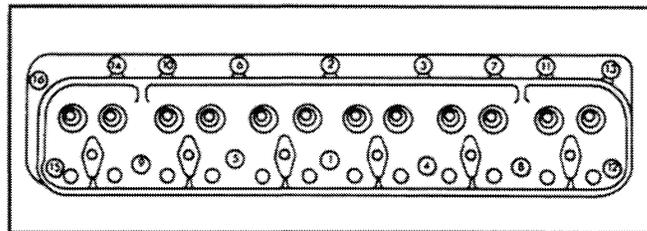

Figure 17
2. Tighten the cylinder head bolts in the proper sequence shown in Figure 17. Tighten the bolts progressively in three steps to the torque shown below.